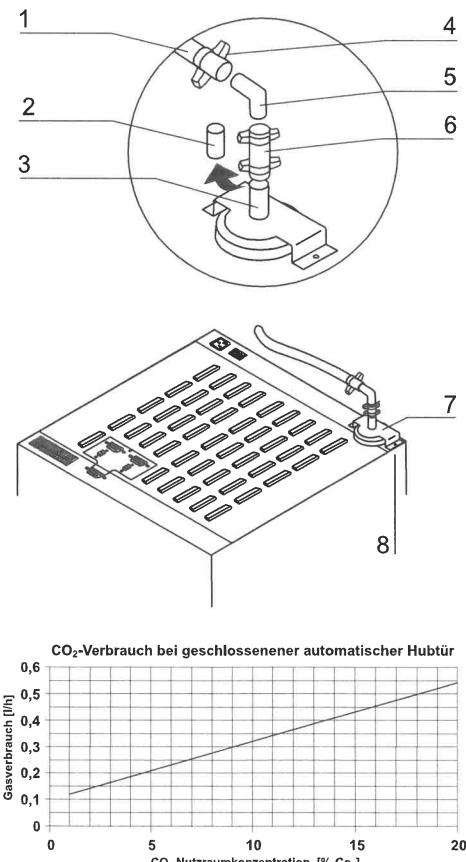

Fig. 22,
1. **Fig. 22:** Slide the hose clamp [4] onto the gas pressure hose [1]. Connect the gas pressure hose [1] to the angular adapter [5].